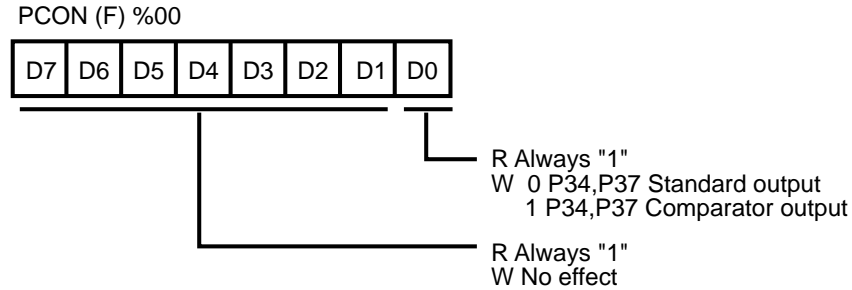

**Figure 23. Counter/Timer Block Diagram**
**Counter/Timers.** There are two 8-bit programmable counter/timers (T0-T1), each driven by its own 6-bit programmable prescaler. The T1 prescaler is driven by internal or external clock sources; however, the T0 prescaler is driven by the internal clock only (Figure 23).